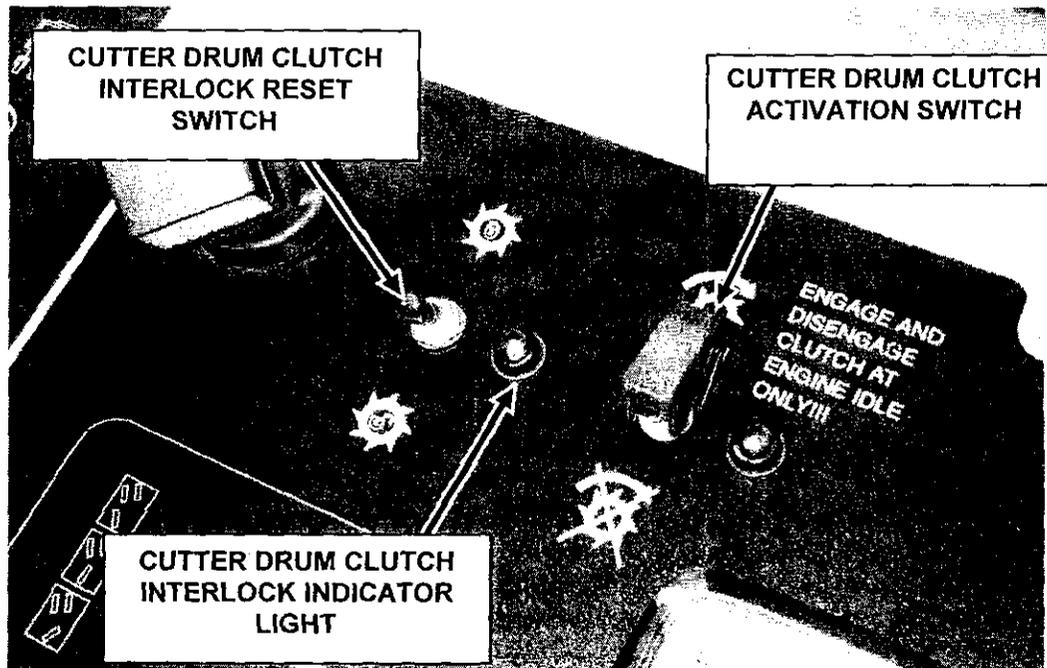

FIGURE 25
1. If the cutter drum interlock has been activated, the interlock indicator light, located on the operator's console, will be illuminated (figure 25).